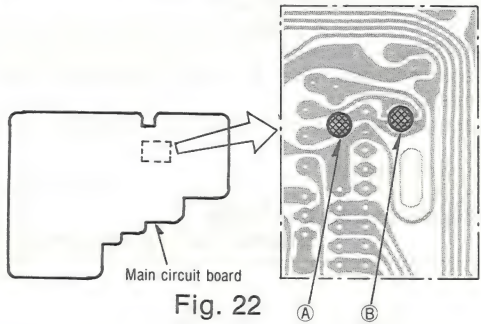

Fig. 22
3. If the measured value is not within standard value, correct it by opening or closing the jumper junctions (A) and (B) as follows (See Fig. 22):
- After closing (A) and opening (B), read the resulting value.
• If it is less than 70Hz, close (B).
• If more than 120Hz, open (A) but close (B).
• If opening (A) and closing (B) do not cause the reading to be less than 120Hz, open both (A) and (B).